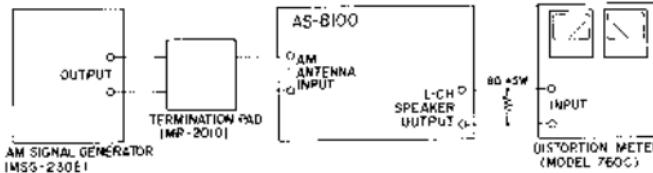

Fig. 15
- 6) Repeat adjustments outlined in items 2) through 5) above two or three times until perfect reception is obtained in the reception frequency range of 525 to 1530 kHz.
10. AM TUNER TRACKING ADJUSTMENT (See Fig. 15.)